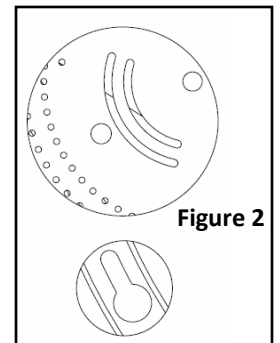
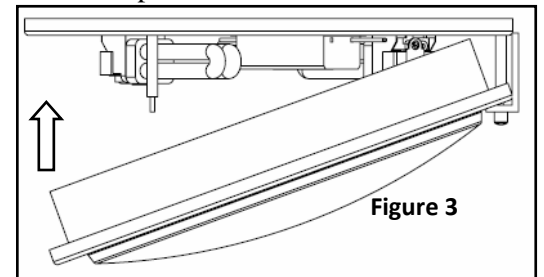

Figure 2
Figure 3
- A. Install fixture by securing the ceiling pan (1) to the ceiling using the semi-circular slots and/or outer keyhole slots (**Figure 2**). **Note:** over-tightening can warp/bend the ceiling pan.
- B. If required, install lamps (6). For CFQ lamps: push lamp into lamp holder until it snaps in place. For GU24 lamps: insert lamp into lamp holder and turn it clockwise until it snaps in place.
- C. Place diffuser (2) over ceiling pan. Install trim ring (4) and brackets (3) using thumb nuts (5). Note – to enable single-person mounting, install trim ring with one bracket and thumb nut, then insert diffuser and install remaining brackets (**Figure 3**).